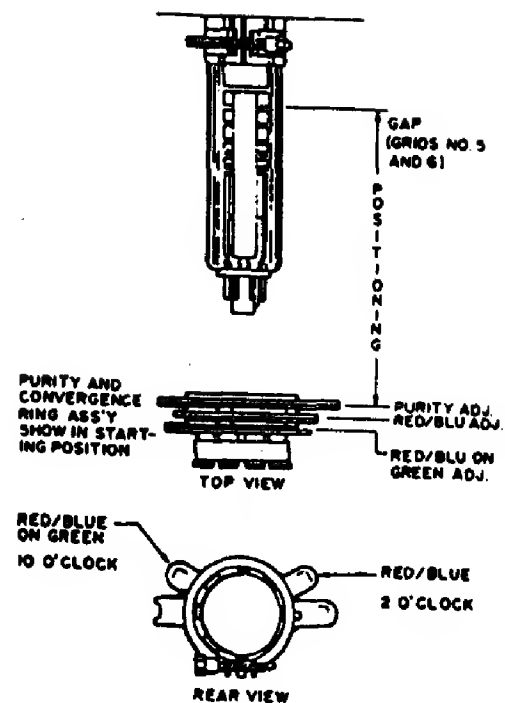
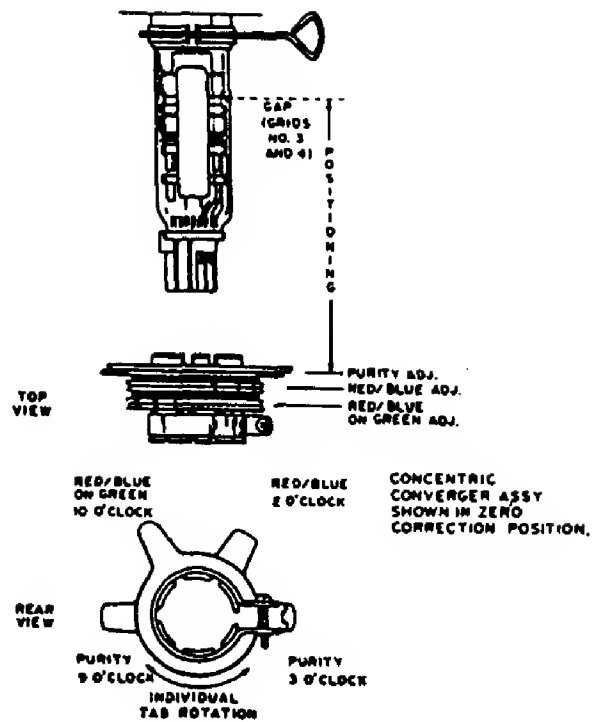

Fig. 1
Fig. 3
2. Referring to Fig. 1 and 3, do the following adjustments in subdued light after degaussing and setting the purity of the CRT.
2. On picture tubes with a 22.5 mm neck diameter, set the ring assembly on the CRT neck with the center line of the purity ring-pair over the gap between grids No5. and 6. See Fig. 1 (For picture tubes with a 29 mm neck, use the gap between grids No3 and 4 Fig.3)
3. Make certain that the magnetic ring-pairs are in their correct starting position before beginning this procedure. The correct starting position for the purity ring-pair is not necessarily the one shown in Fig. 1,3. The correct starting position will vary from ring assemblies from one manufacturer to another. It will be necessary to determine the correct starting position -also known as the zero correction position.
Fig.1,3 show a ring assembly in which each of the rings of the purity ring-pair has two-one long and one short. With some ring assemblies of this type, the zero correction position is with the long tab of one ring aligned with the short tab of the other ring.
The correct starting positions for the other ring pairs are shown in Fig. 1,3. For the other type of ring assembly (not shown), the correct starting position for the other two ring-pairs is with all of the tabs aligned with each other and pointing up, toward the anode contact of the CRT.